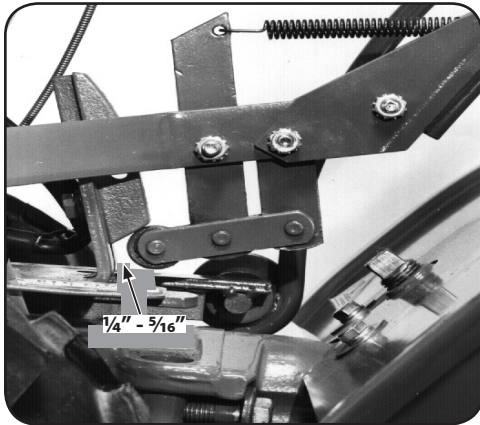

Figure 5-13
2. Move the Wheels/Tines/PTO Drive Lever fully down to the FORWARD position. The clutch roller at the bottom of the lever should be positioned underneath the belt adjustment block. See Figure 5-13. Don't let the clutch roller move during the next few steps. If it moves, you'll get a false belt tension reading.
3. The belt tension is correct if the front of the clutch roller is $\frac{1}{4}$ "-to- $\frac{5}{16}$ " away from the face of the upright bracket that holds the adjustment block in place. See Figure 5-13. To measure this distance: